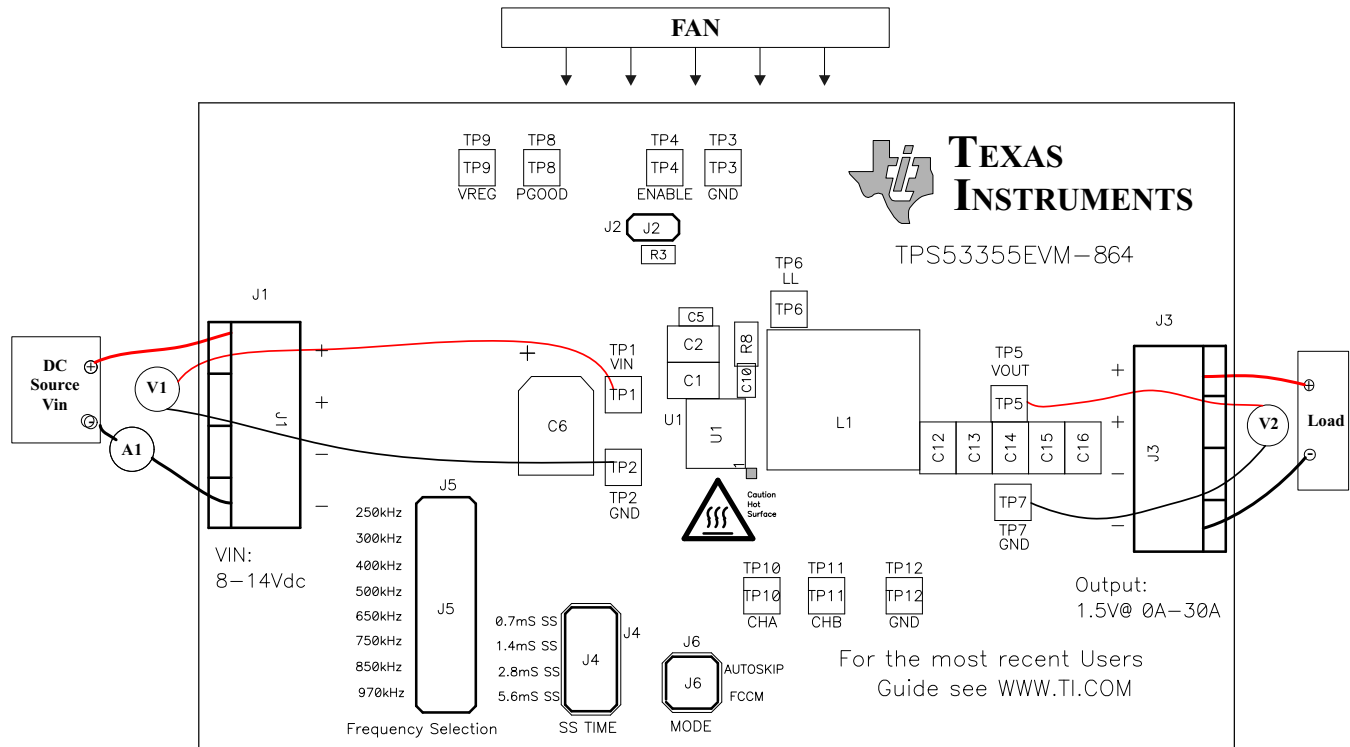

Figure 3. TPS53355EVM-864 Recommended Test Setup
Voltage Source: The input voltage source V_{IN} must be a 0-V to 14-V variable dc source capable of supplying 10 Adc. Connect V_{IN} to J1 as shown in Figure 3.
Figure 3 is the recommended test setup to evaluate the TPS53355EVM-864. Working at an ESD workstation, ensure that any wrist straps, bootstraps, or mats are connected referencing the user to earth ground before power is applied to the EVM.
1. Prior to connecting the dc input source V_{IN} , it is advisable to limit the source current from V_{IN} to 10 A maximum. Ensure that V_{IN} is initially set to 0 V and connected as shown in Figure 3.
Place a fan as shown in Figure 3, and turn it on, making sure that air is flowing across the EVM.
1. Set up EVM as described in Section 5 and Figure 3.
1. Set up the EVM as described in Section 5 and Figure 3.